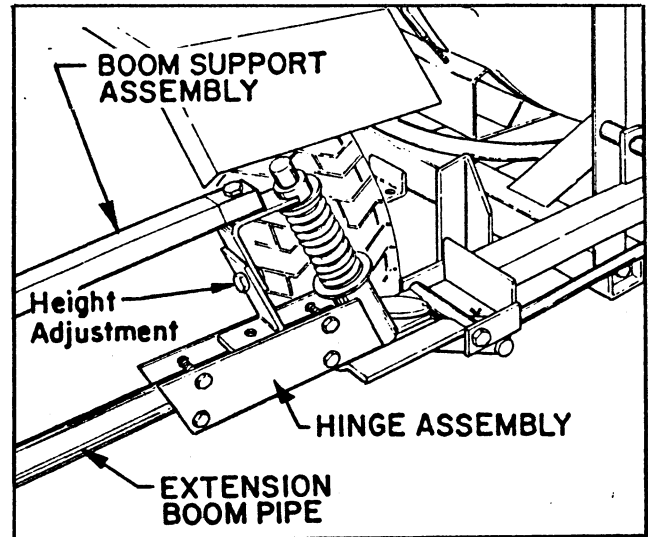

FIG. 7
■ Insert an Extension Boom Pipe into the Pivot Assembly and secure with four 1/4" x 1-1/4" hex hd cap screws and lock nuts. See FIG. 7. Repeat on the opposite side to assemble the other Extension Boom.
■ Attach the Boom Support Assembly to the Pivot Assembly, using a 5/16" x 1-1/2" " screw and hex nut. See FIG. 7. Secure the two plates of the Boom Support Assembly to the Extension Boom Pipe, using two U-bolts and four lock nuts.